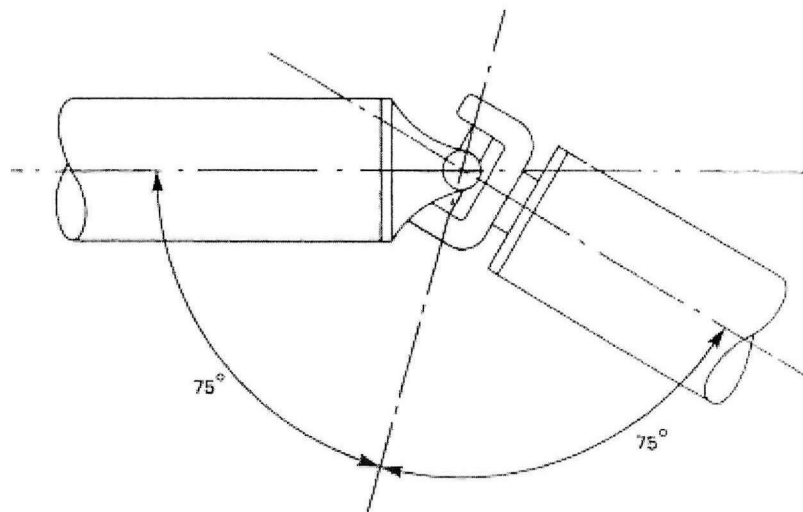

Figure Q3(d)
- (b) Predict **THREE (3)** vehicle condition symptoms when U-joint worn out. (6 marks)
- (d) The illustration in **Figure Q3(d)** is a problem with a Hookes-types joint; the line B is bisecting the angle between the two shafts. Draw this drawing again in your answer book with a centre line through the joint driving contacts. (2 marks)